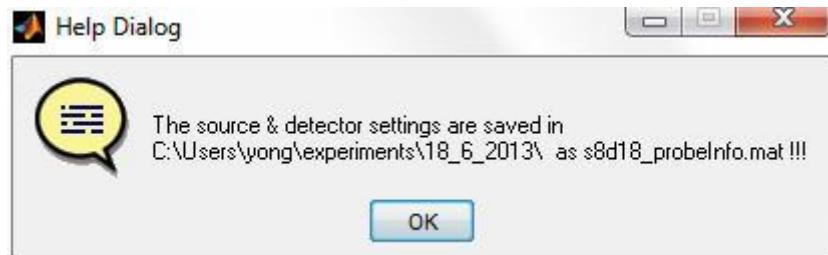

Figure 7-11. Help dialogue identifying detection settings file.
Step 4: Clicking the 'Save & Close' button in the lower left corner of the Detector Positions GUI, will save the detector settings in same folder you selected for the source positions. When done, a help dialogue window shown in Figure 7-11 will open, identifying file name and location.